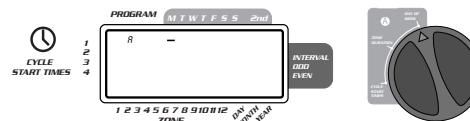

FIGURE 7: LCD Display with Watering Days
- Turn the rotary dial to **DAY OF WEEK** in program A. The display will show an "A" and the cursor will blink under the days of week **M, T, W, T, F, S, S** (Monday, Tuesday, etc.) [See Figure 7].